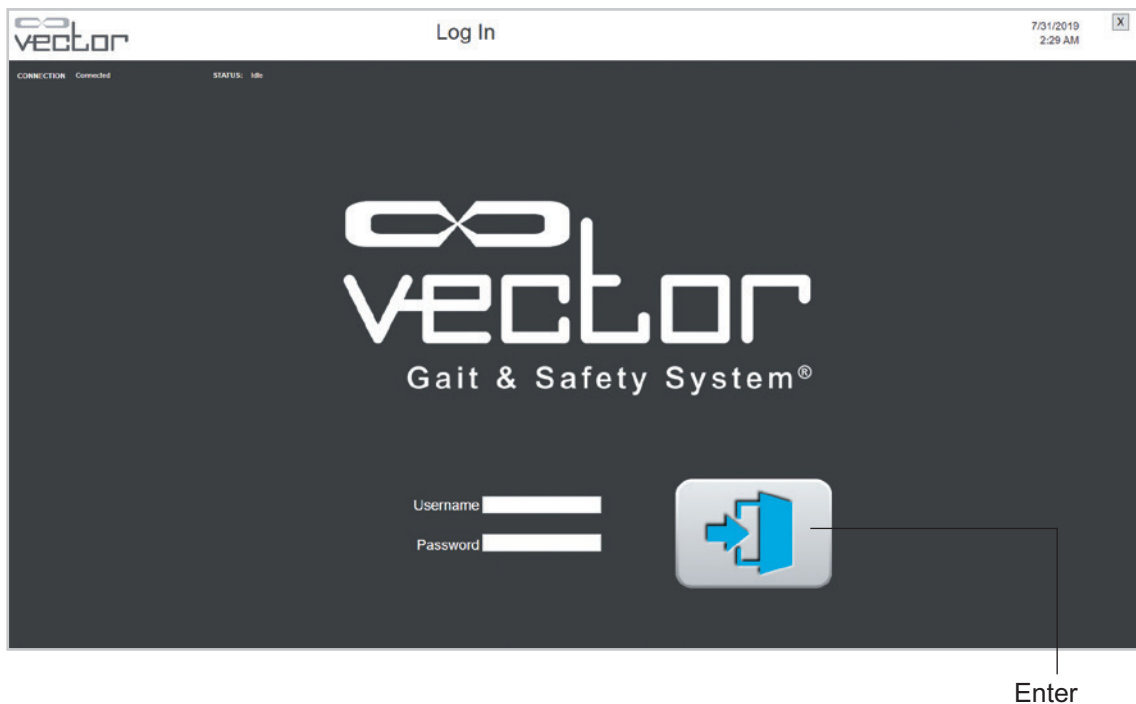

Figure 11-1: Vector Login Screen
1. From the Vector login screen enter an administrator user name and password. Press the Enter button to log in. See Figure 11-1.